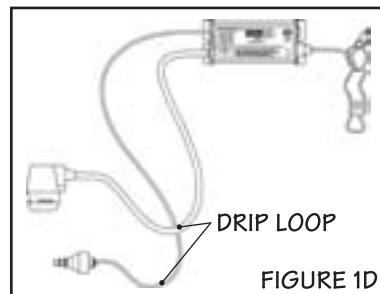
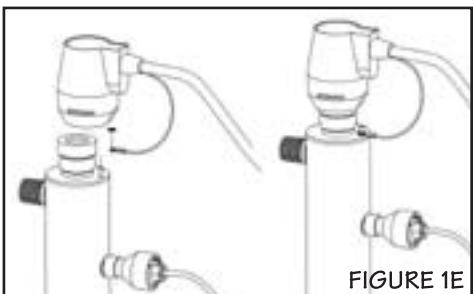

FIGURE 1D
FIGURE 1E
- The ballast should be mounted either above or beside the reactor chamber. Never mount vertically with AC connector at top of ballast to prevent moisture from running down cordage and causing a potential fire hazard. Drip loops in all cordage connected to ballast controller is highly recommended (see figure 1D).
! 4. Mount the Silver ICE controller horizontally to the wall, near the reactor chamber. Ideally place the controller above the reactor and away from any water connection point, to prevent any water from potentially leaking onto the controller by means of a leak at a connection point or a "sweating" system. Make sure you allow for a "drip-loop" (Figure 1D) on the lamp, sensor and power cord, again, to prevent any water from potentially entering the controller. Affix the green ground wire to the grounding lug at the top of the reactor vessel and securely fasten with the lugnut provided (Figure 1E)